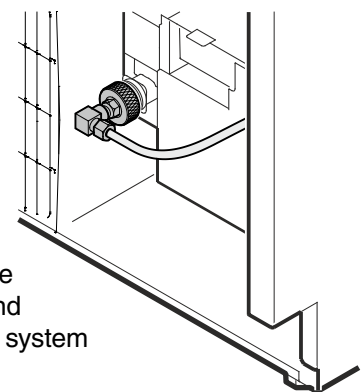

Figure 17
6. Connect the water line to the adapter in the respective configuration, depending on the type of water line used. Figure 17 shows the configuration with a copper line as an example.
8. Screw the adapter onto the solenoid valve (**Figure 17**).